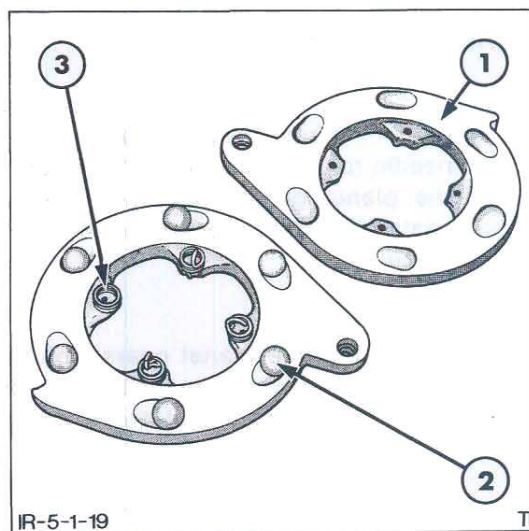

Figure 19
2. Remove the four actuating disc return springs and separate the actuating discs, Figure 19.